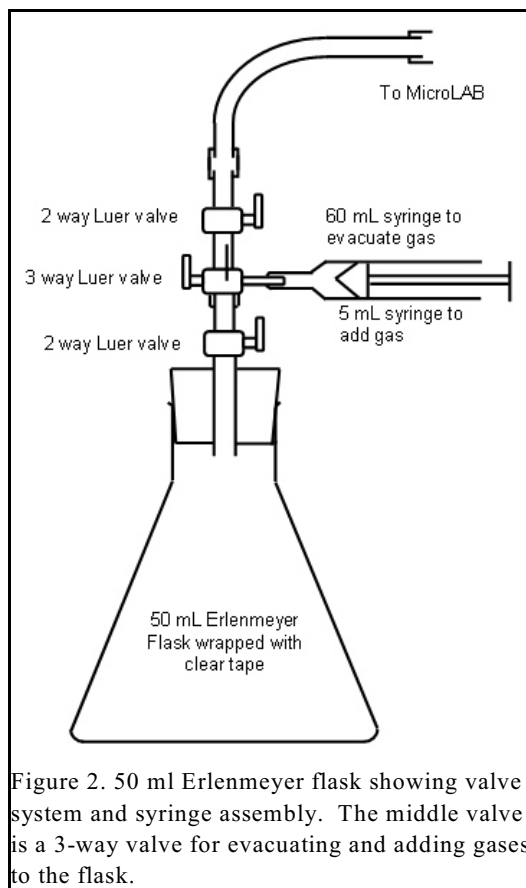

Figure 2. 50 ml Erlenmeyer flask showing valve system and syringe assembly. The middle valve is a 3-way valve for evacuating and adding gases to the flask.
2. With the Erlenmeyer flask attached as shown in Figure 2, and all the valves open, attach the 60 ml syringe to the 3-way valve (the middle valve).